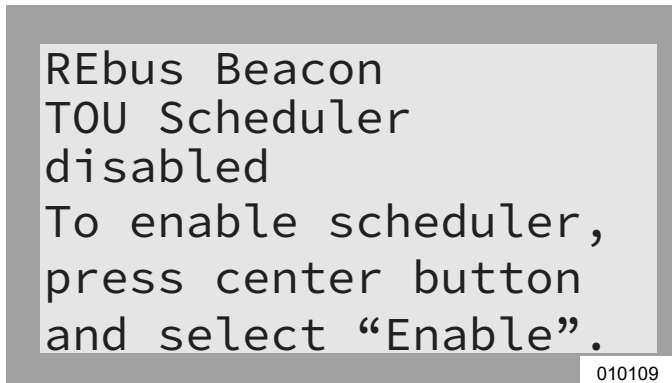

Figure 6-14. Configuring TOU Schedule (1 of 4)
1. See **Figure 6-14**. Navigate to the Beacon device page and press the center button to enter the device menu.